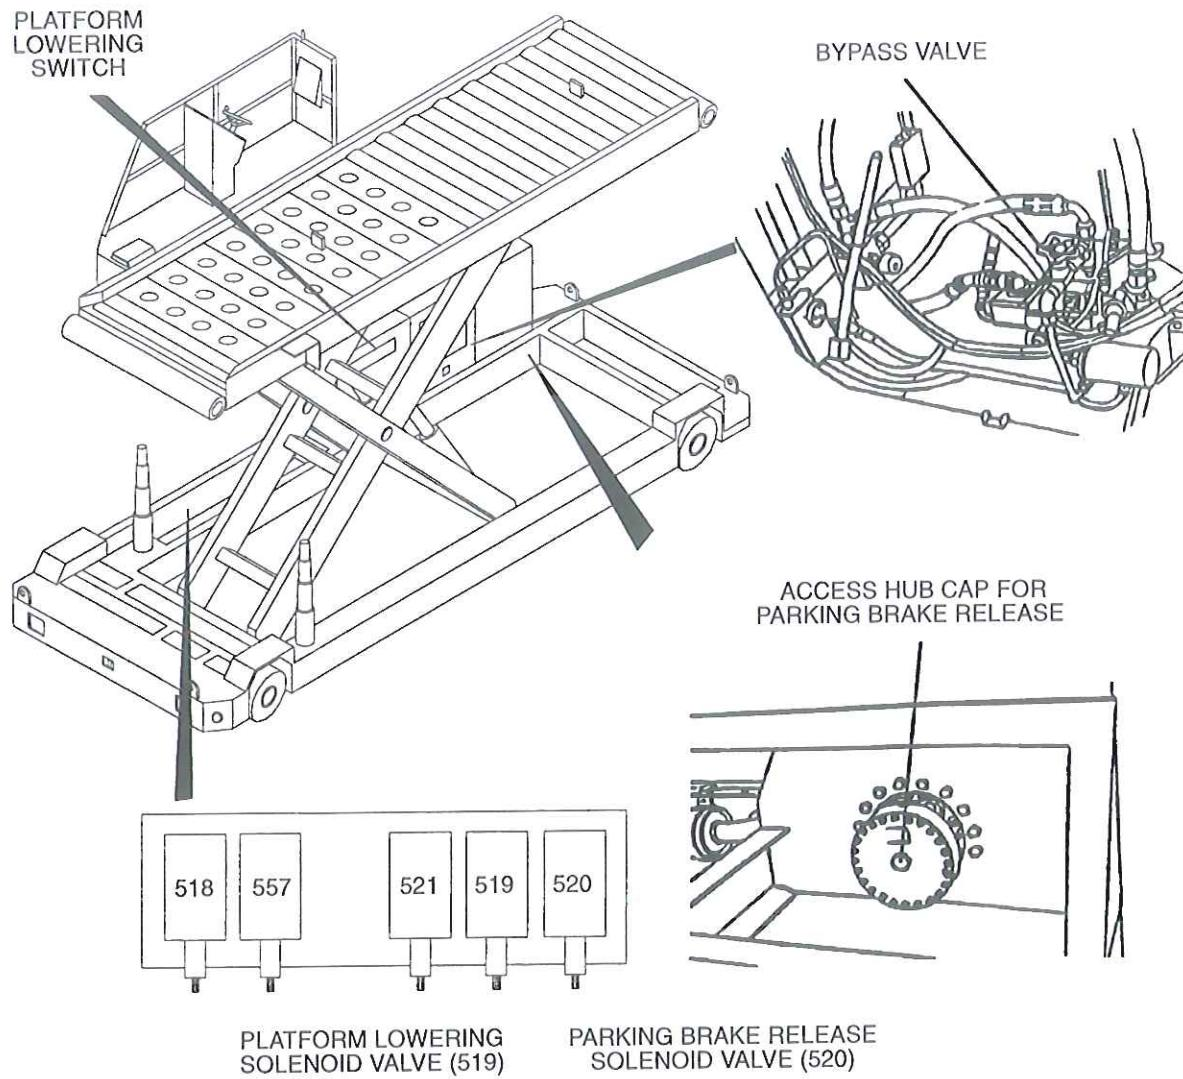

Figure 4
4. TOWING THE VEHICLE (FIGURE 4)